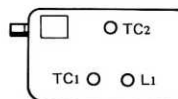
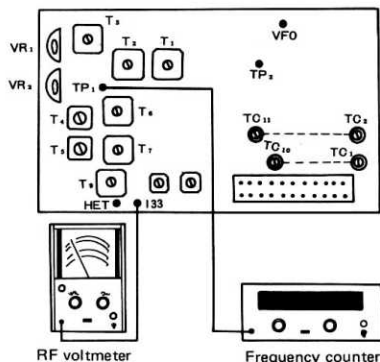

Fig. 14
Fig. 15
Refer to Fig. 14 and Table 4. The dial position "1000" (Table 4) is reached by turning the main dial clockwise and backing it away by one rotation from the stopper point. One rotation corresponds to an interval of 25 kHz. Connect the frequency counter to VFO terminal of HET unit. The location of this terminal is indicated in Fig. 15.
Connect the RF vacuum-tube voltmeter and frequency counter to the HET unit as shown in Fig. 15. With RIT control accurately positioned at "O", the dial at "O" position and VR2 set at its neutral position, adjust according to Table 5.
(1)	144	ON	L2	125.100 MHz
(2)	144	OFF	VR1	125.100 MHz
(3)	145	OFF	L3	126.100 MHz
(4)	Connect RF voltmeter to TP1; adjust T1 to maximize output voltage at 126.100 MHz; and adjust T2 in such a way that the output voltage at 125.100 MHz will come to within 1 dB of the voltage level already obtained at 126.1 MHz; try to minimize the difference between the two voltage levels.
(5)	Adjust T3 to maximize the RF voltage applying to the gate of Q6 (2SK19) or Q7, with VFO set at "500" on the graduated scale. So that the RF voltmeter pointer will not deflect beyond the 1.3-V point at this time, adjust the TC2 on VFO unit (Fig. 14).
With the frequency counter connected to TP2 (Fig. 15), adjust each trimmer for a fixed channel to obtain the target value indicated in Table 6. There are a total of 11 trimmers, TC1 through TC11, inclusive.
- 2) Adjust VR1 (of the GEN unit, Fig. 15) in such a way that turning off the RIT switch will not affect the beat sound.